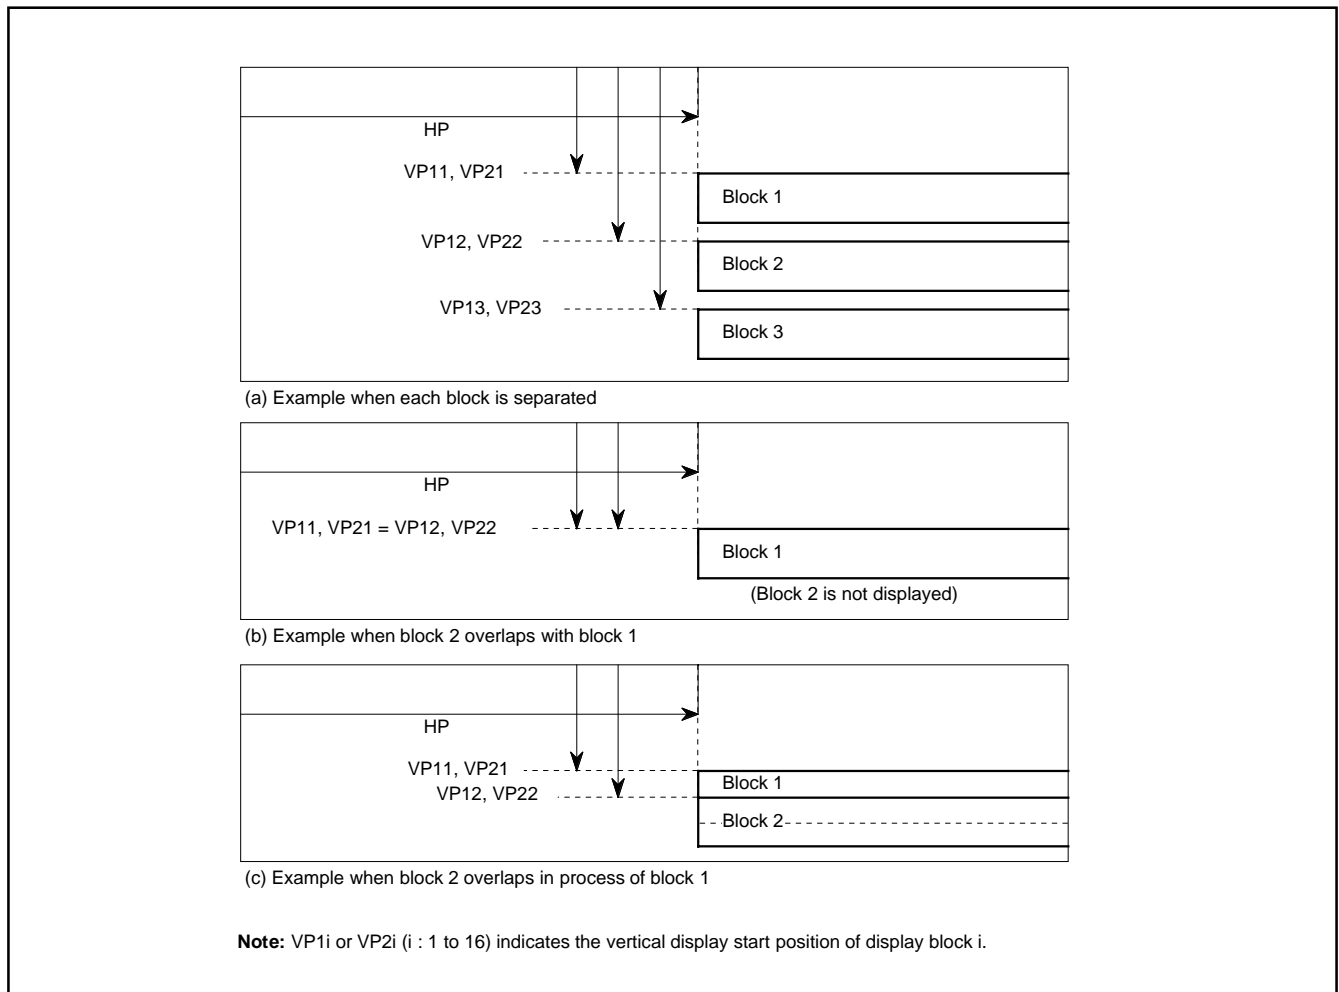

Fig. 8.11.8 Display Position
- When the display start position is overlapped with another block (Figure 8.11.8 (b)), a lower block number (1 to 16) is displayed on the front.
- When another block display position appears while one block is displayed (Figure 8.11.8 (c)), the block with a larger set value as the vertical display start position is displayed. However, do not display block with the dot size of 2TC × 2H or 3TC × 3H during display period (\*) of another block.